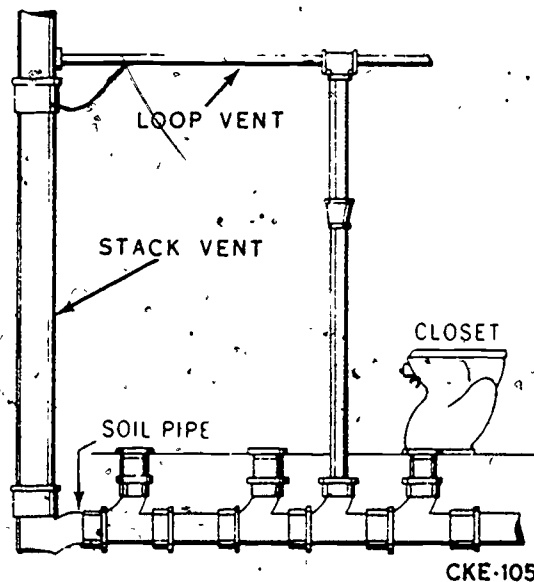

Figure 2-21 Water closet battery loop vent.
**Loop vent.** A loop vent is similar to the circuit vent, except it ties into the soil or waste stack. This type of vent is used primarily in single story buildings, but it may be used on the top floor of multistory buildings. Figure 2-21 illustrates a water closet battery loop vent.